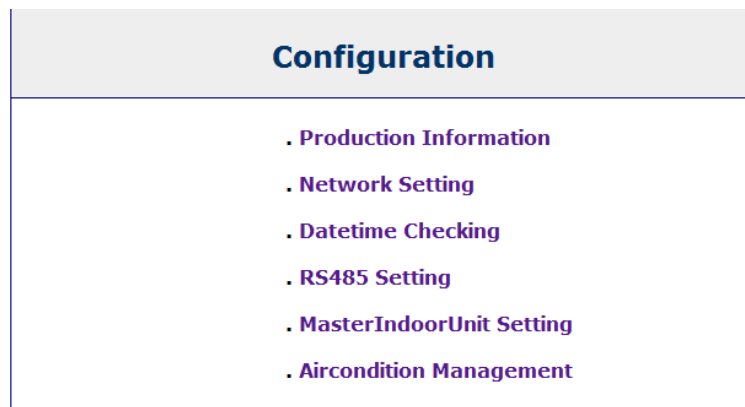

Figure3.5 Setting and debugging
4. Enter the user name: admin, with no password, click on the login, the interface appears after login as shown in Figure 3.5.